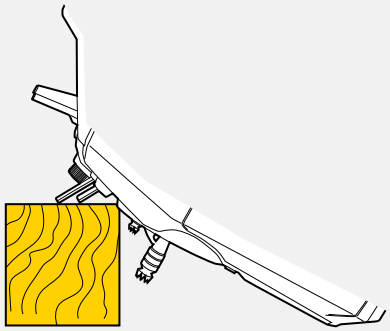

Fig. 14
4. Place the transmitter on a wooden (or similar) block to prevent the sticks from touching the working surface (see [Fig. 14]). Work on a soft surface.